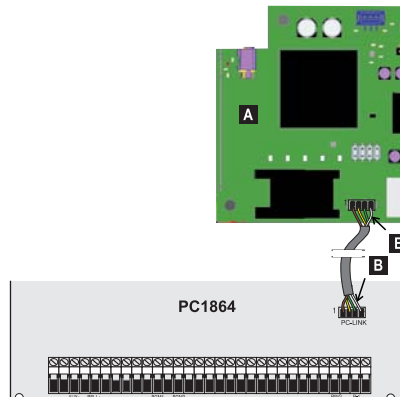

Figure 6 – Connecting the Communicator to a DSC Power Series control panel via a PCLINK-PCLINK cable: **A)** Communicator; **B)** white wire.
To connect the Power Series PC1864 control panel to the Communicators you will need a PCLINK-PCLINK cable (see Figure 6) connecting the PC-LINK connector 15 on the Communicator with the PC-LINK connector on the control panel, making sure that you insert the connector the right way round.
*Connect the PCLINK/PCLINK cable as shown in Figure 6, please note that the white wire on the PCLINK-PCLINK cable connector must be connected to pin 4 of the PC-LINK connector on the Communicator and on the control panel.*